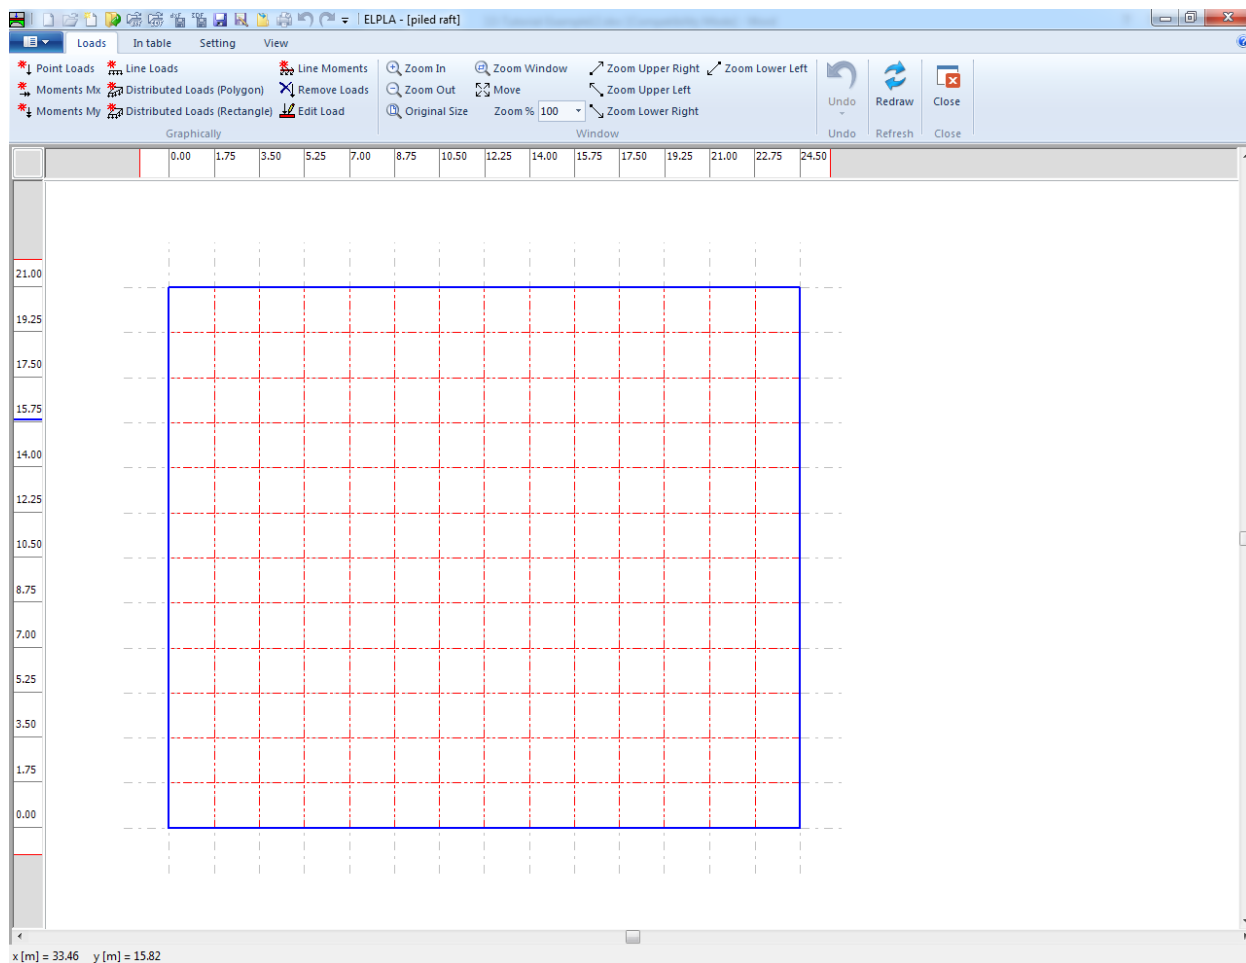
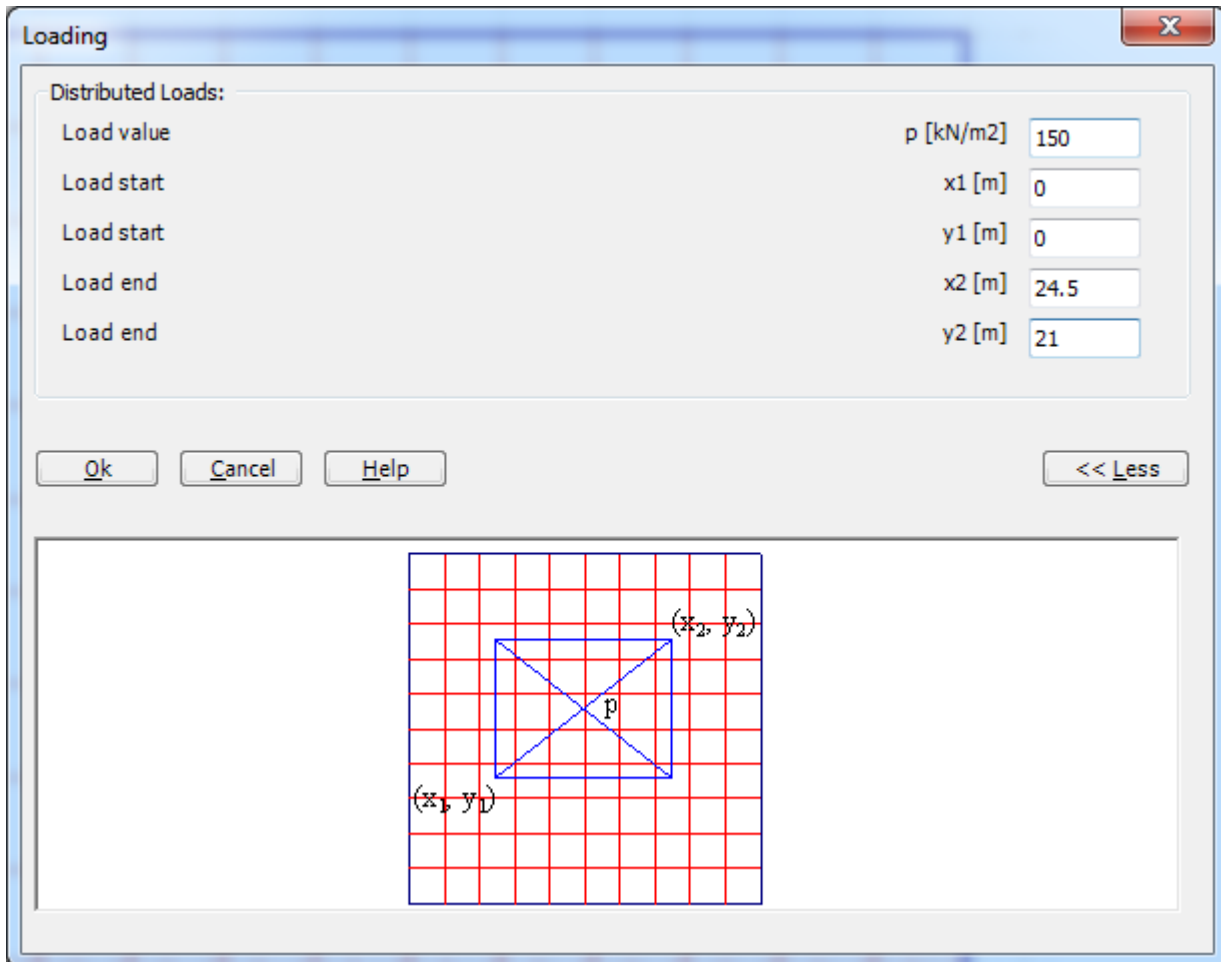

Figure 12.27 "Loads" Window
Figure 12.28 "Distributed loads p " list box
To define the loads, choose "Loads" command from "Data" Tab. The following Window in Figure 12.27 appears.
- Choose "Distributed Loads (Rectangle)" command from "Graphically" menu in the window of Figure 12.27. When "Distributed Loads (Rectangle)" command is chosen, the cursor is changed from an arrow to a cross hair. Then, the load can be defined by holding the left mouse button down at the starting point of the distributed load. As the mouse is dragged, a box appears, indicating a distributed load is being defined. When the left mouse button is released, the following dialog box in Figure 12.28 appears with the load value and coordinates